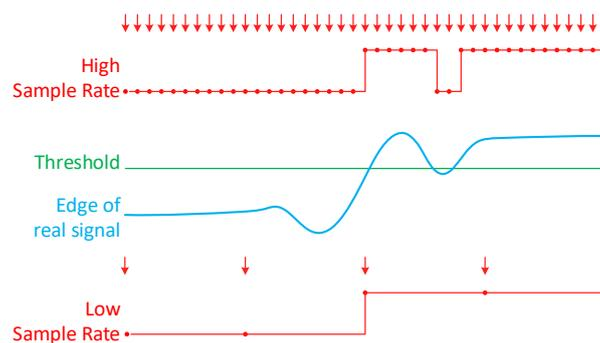

Figure 2-11
2. When the frequency of the measured signal is very low, it often means that the rising/falling time is longer. As shown in Figure 2-11, excessively high sampling rates may capture the transitions and glitches of the rising/falling edge itself, which can be detrimental to signal or protocol analysis.